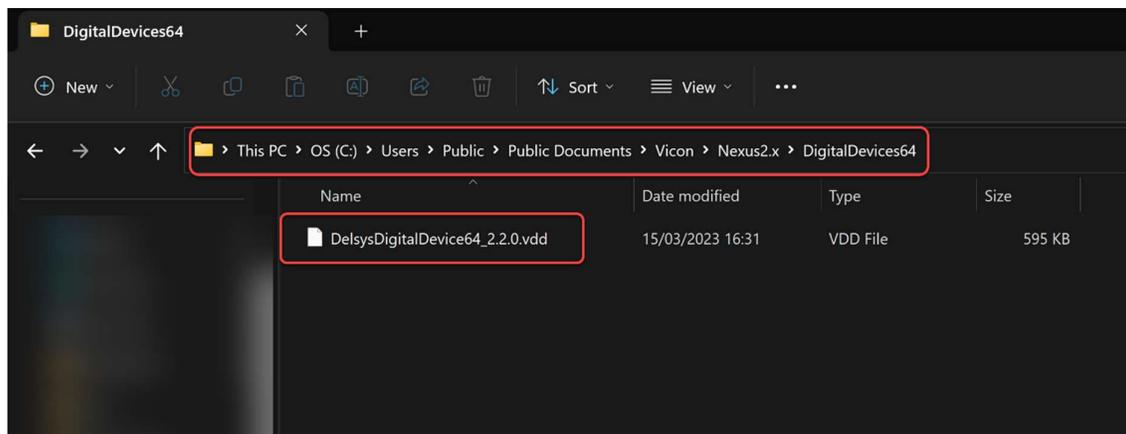

Figure 2b: Screenshot of the necessary file path for the .vdd file.
- b) Place the **DelsysDigitalDevice_2.2.0.vdd** in the *DigitalDevices64* folder (Figure 2b).